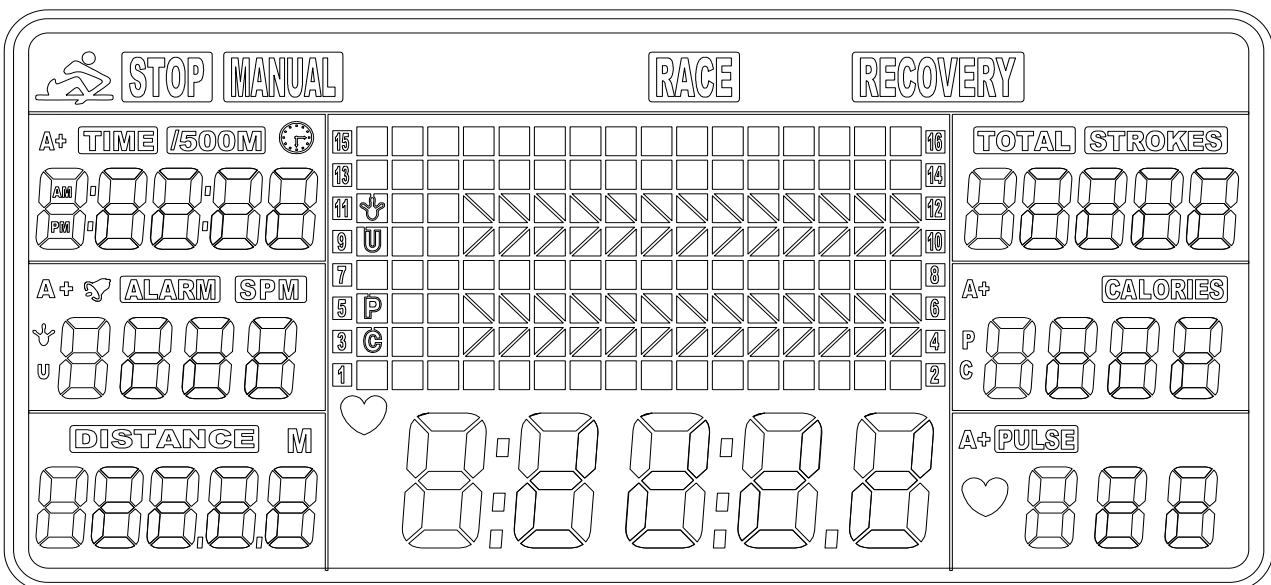

Fig. 1
1. Install 2 PCS AA batteries (included) and meter will beep for 2 seconds (Fig. 1).